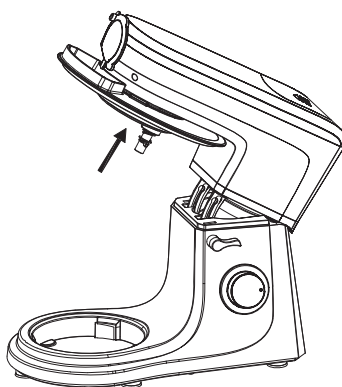

Fig2
3. Install the bowl cover [8] into the stirring end of the machine. [Fig2]